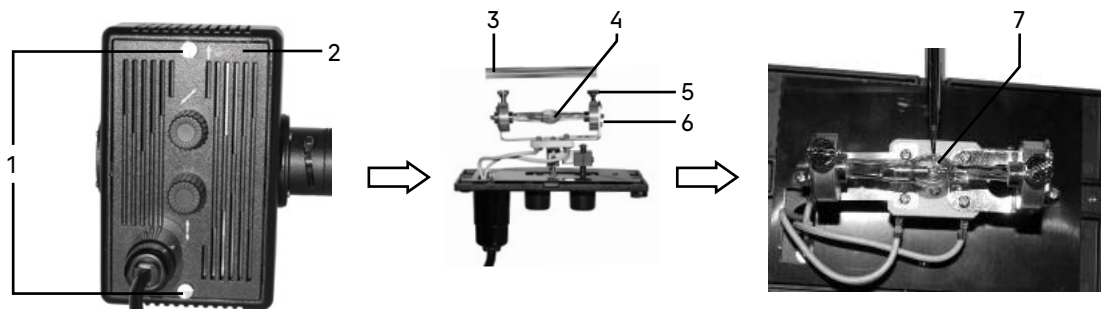

Fig. 4b. Installing the mercury lamp
9. Install the mercury lamphouse **9** and the mercury lamp, as shown in Fig. 4b.